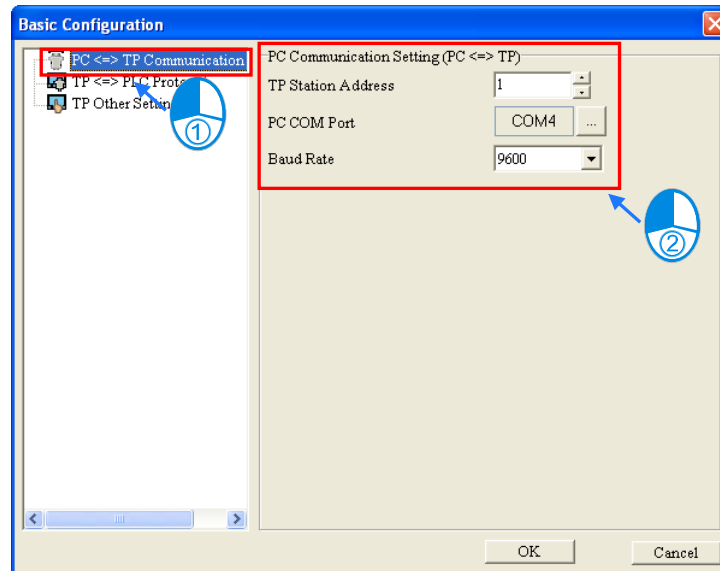

Figure 3-13 Basic Configuration window
Basic Configuration on the **Tool** menu is used to set the text panel used. Users can set **PC<=>TP Communication Setting**, **TP<=>PLC Protocol**, and **TP Other Setting**. The items which can be set vary with the model used. After the users click **Basic Configuration** on the **Tool** menu, the **Basic Configuration** window will appear, as shown in Figure 3-13.
- **PC<=>TP Communication Setting:** Users can set the communication between a TP series text panel and the computer. The value in the **TP Station Address** box is in the range of 0 to 255, and must be the same as the station address of the TP series text panel used. The communication port in the **PC COM Port** box is the communication port connected to the computer. The value in the **Baud Rate** drop-down list box is in the range of 9600 to 115200. Please see Figure 3-13.